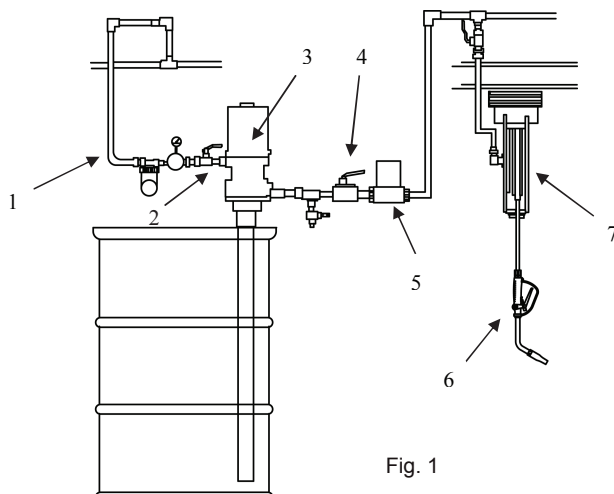

Fig. 1
Fig. 1 shows a typical installation.
The installation shown in Fig. 1 is only a guide. The components shown are typical; however, it is not a complete system design. Contact your distributor for assistance in designing a system to suit your particular needs.
2. Close the fluid shut-off valve (Item 4 in Fig. 1)